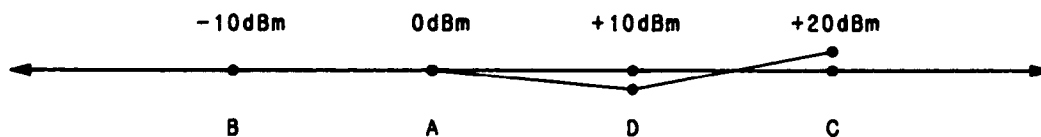

Figure 5-12. Final Response Curve
- Set the HP 8495B programmable attenuator to 30 dB. On the HP 8350B, press **RECALL** (2). On the HP 83590A, select **[POWER LEVEL]** and adjust the rotary knob for a -10.0 dBm reading on the HP 436A.
- For remaining adjustment points D (+10 dBm) and C (+20 dBm), follow Table 5-4. Iterate between both of these points as in step 11 and 12 for an optimum response. This final step will in affect rotate the entire curve around the 0 dBm point. The response should resemble Figure 5-12.